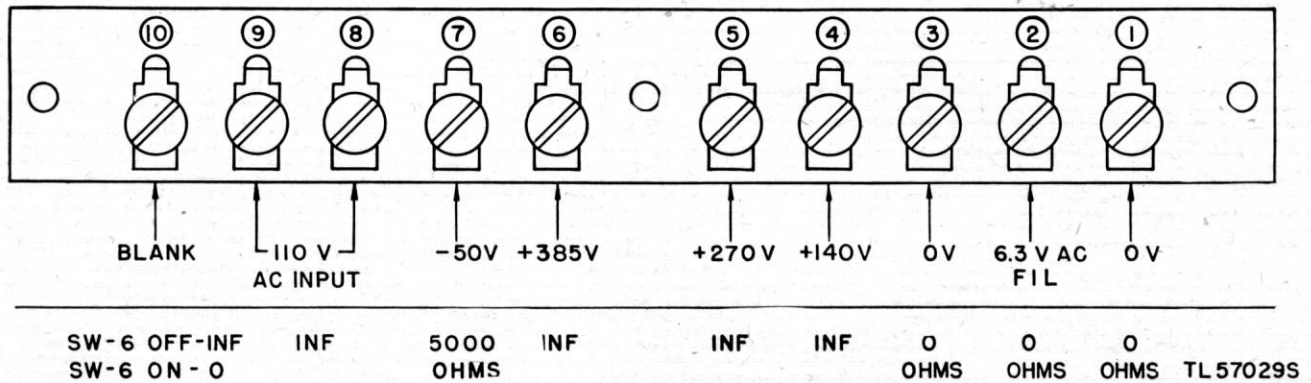

Figure 36. Receiver terminal strip, voltage and resistance measurements.
c. If no abnormal indication appears, measure the voltage and resistance between the terminals of terminal strip E4 and the receiver chassis (fig. 36). Correct readings will indicate that the power supply
| 3. Receiver inoperative. S-meter does not deflect as receiver is tuned. Dial lamps light. | 3. Failure of B plus supply..... Defect exists between antenna terminal and detector stage. | 3. Remove metal cover from receiver terminal strip E4 and compare voltages measured between each terminal and chassis with values shown (fig. 36). If no B plus voltage is present, check power supply unit tubes. If voltage is low, check filter capacitors C1 and C2. See symptoms 4 and 5. |